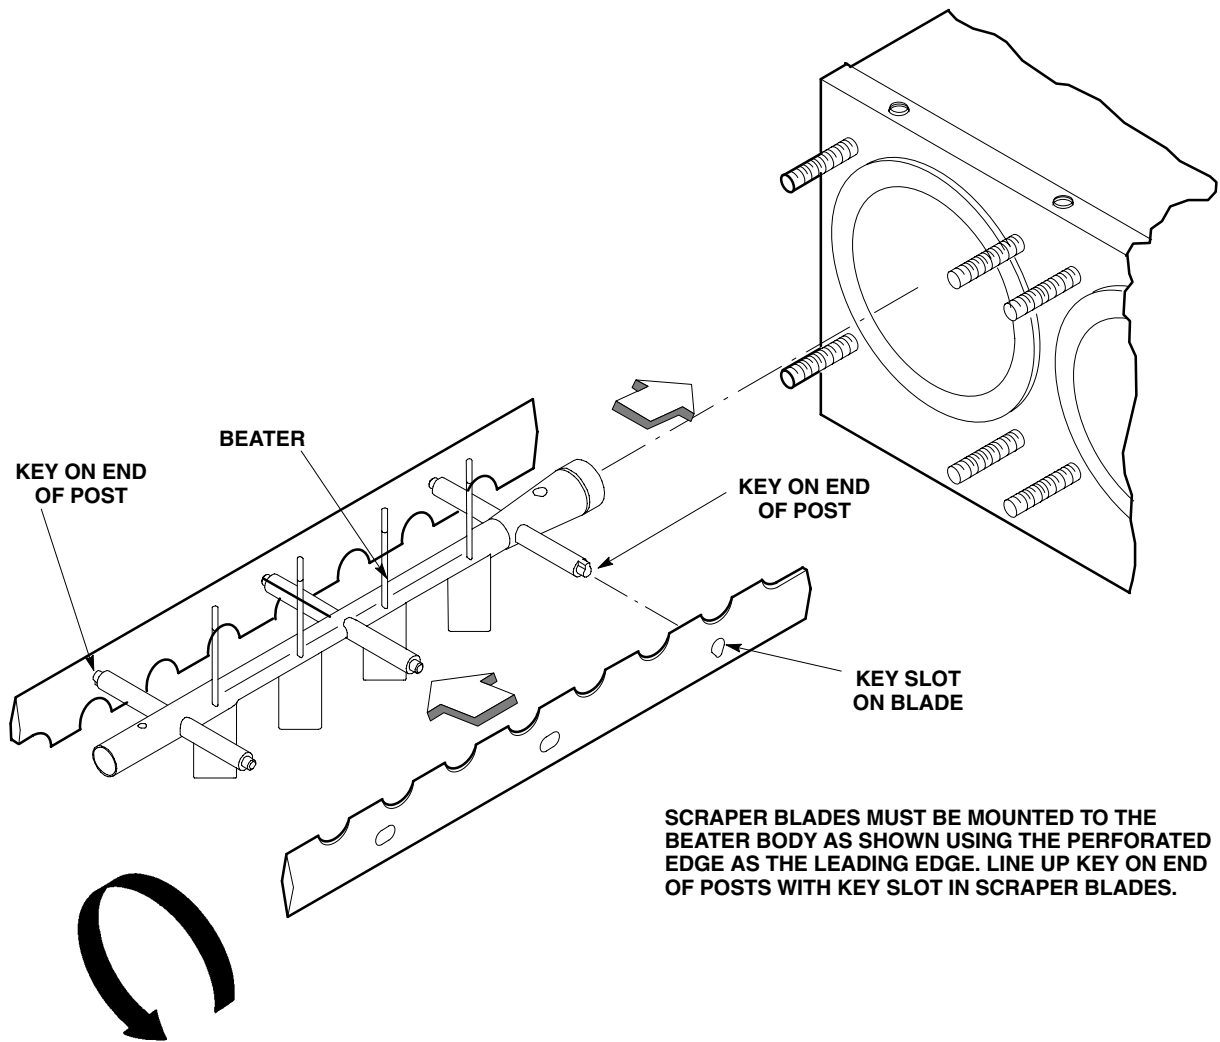

FIGURE 12. BEATERS AND SCRAPER BLADES INSTALLATION
15. Position SCRAPER BLADES (item 2) on BEATER (item 13) as shown in Figure 12. Slide beater into freeze cylinder so slotted hooks engage DRIVE PIN (item 16) on DRIVE SHAFT (item 21) as shown in Figure 9. Turn beater to the right (clockwise) to lock in place.
16. Lubricate O-RING (item 5) with water to facilitate faceplate installation. Position O-RING (item 5) on FACEPLATE (item 8). Install faceplate on Unit so dispensing valve spout faces down. (MAKE SURE FEMALE END OF THE BEATER IS PLACED OVER THE FACEPLATE STAINLESS-STEEL STUD AND BUSHING BEFORE PUSHING THE FACEPLATE INTO POSITION ON ITS FOUR THREADED MOUNTING STUDS). Tighten hex nuts until faceplate touches freeze cylinder all around flange. CAUTION – DO NOT OVERTIGHTEN HEX NUTS.